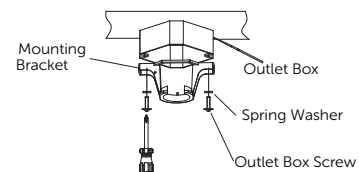

Fig. 2a
2.(1) Securely attach the mounting bracket to an outlet box marked "Acceptable for Fan Support", using the supplied outlet box screws with spring washers (Fig. 2a).